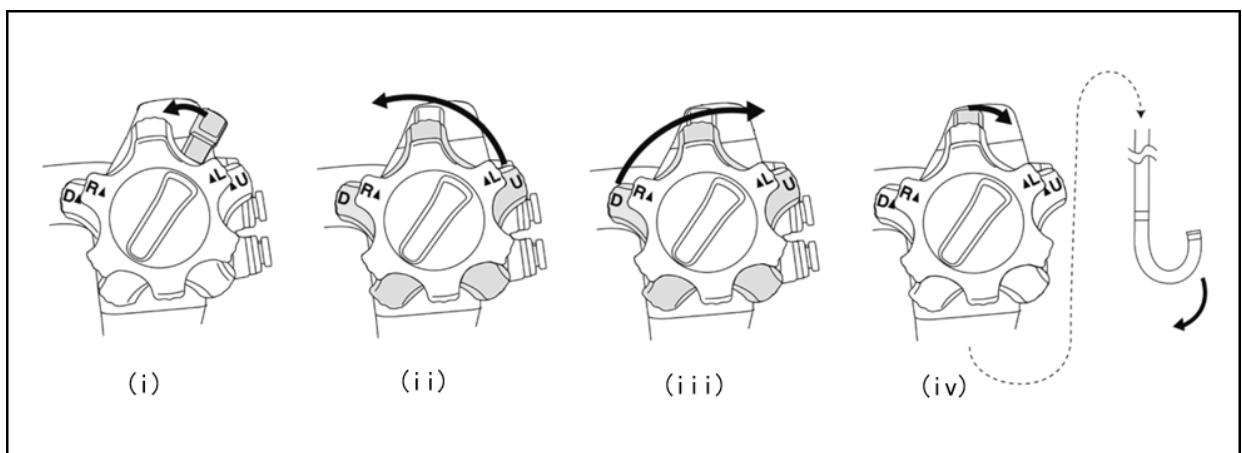

Figure 3.17
- Rotate the up/down angle lock to the opposite direction of the marked "F ▶". Rotate the up/down angle control knob to the full range of motion in the "▲U" or "D▲" direction respectively, as shown in Figures 3.17(i), (ii), and (iii).